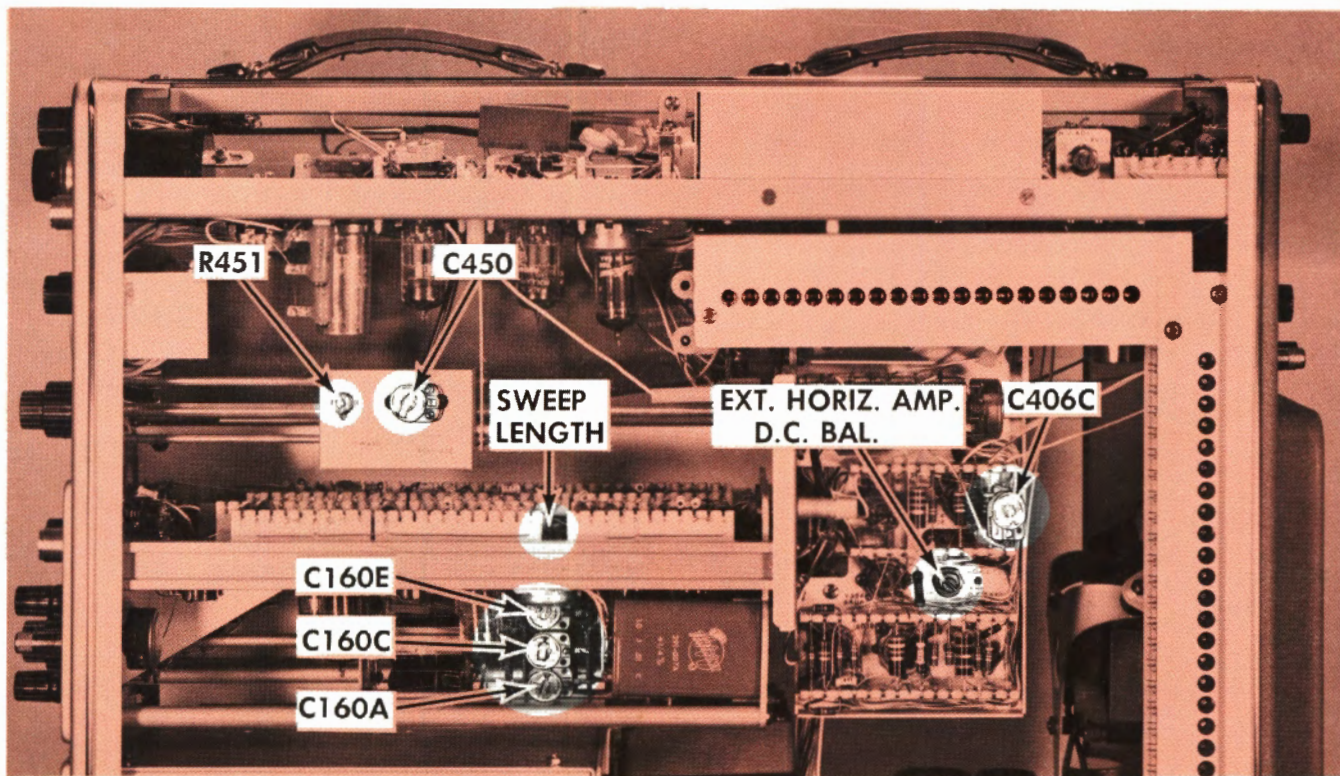

Fig. 7-12. Right side view of indicator unit showing the location of the time base and lower beam adjustments.
With the same display as in Step 27 adjust the SWEEP LENGTH control (see Figure 7-12) for a horizontal sweep length of 10.5 centimeters.
* See Figure 7-12.
Follow the same instructions as given for the Time-Base A (Type 21) Generator and Lower Beam Horizontal Amplifier Calibration steps 23 to 32. Keep in mind the following exceptions: The Type 22 Time-Base Unit remains in the Time Base B compartment. The appropriate control references in the procedure change to Type 22, TIME BASE B or 'B', and Lower Beam. The controls to be adjusted are located on the right-hand side of the Indicator Unit (see Figures 7-12 and 7-14). Also, 400 series numbers are used to designate the circuit numbers for the lower beam as compared to the 300 series numbers used for the upper beam.